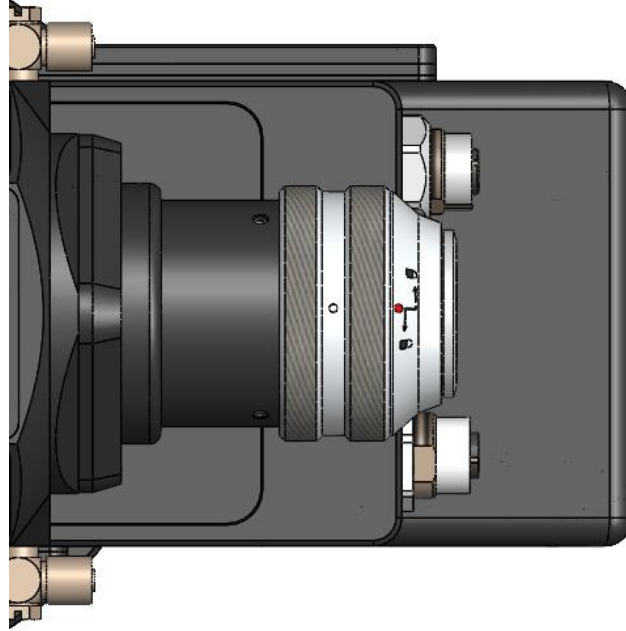

Figure 2.0
- ③ Unscrew the QBH connector to the open position: turn counterclockwise to the limit (you will hear a "click"), be careful to just turn it into place without over-tightening, which could damage the internal structure of the QBH, as shown in Figure 2.0.